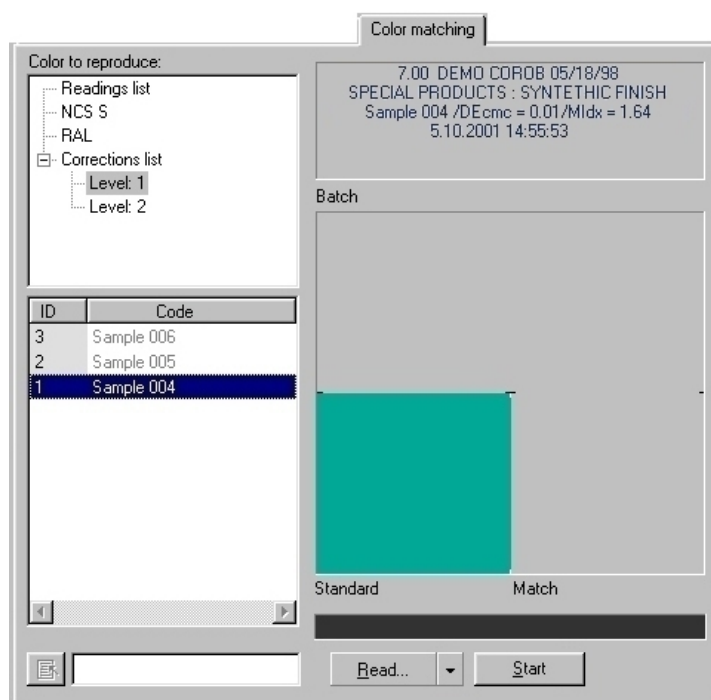

Figure 35
2. Click on the + sign next to the folder **Corrections list** that appears in the section **Color to reproduce** to display the levels of correction (Figure 35).